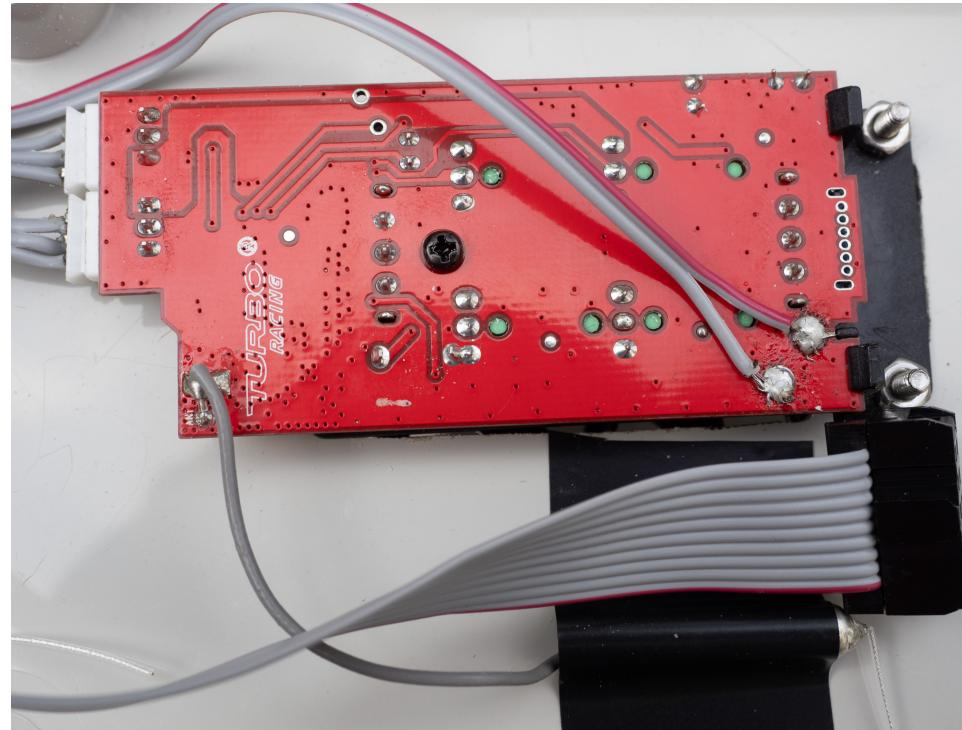

Figure 5: RC Cabling
- In Figure 5, the nose of the black SV1 connector is facing upward